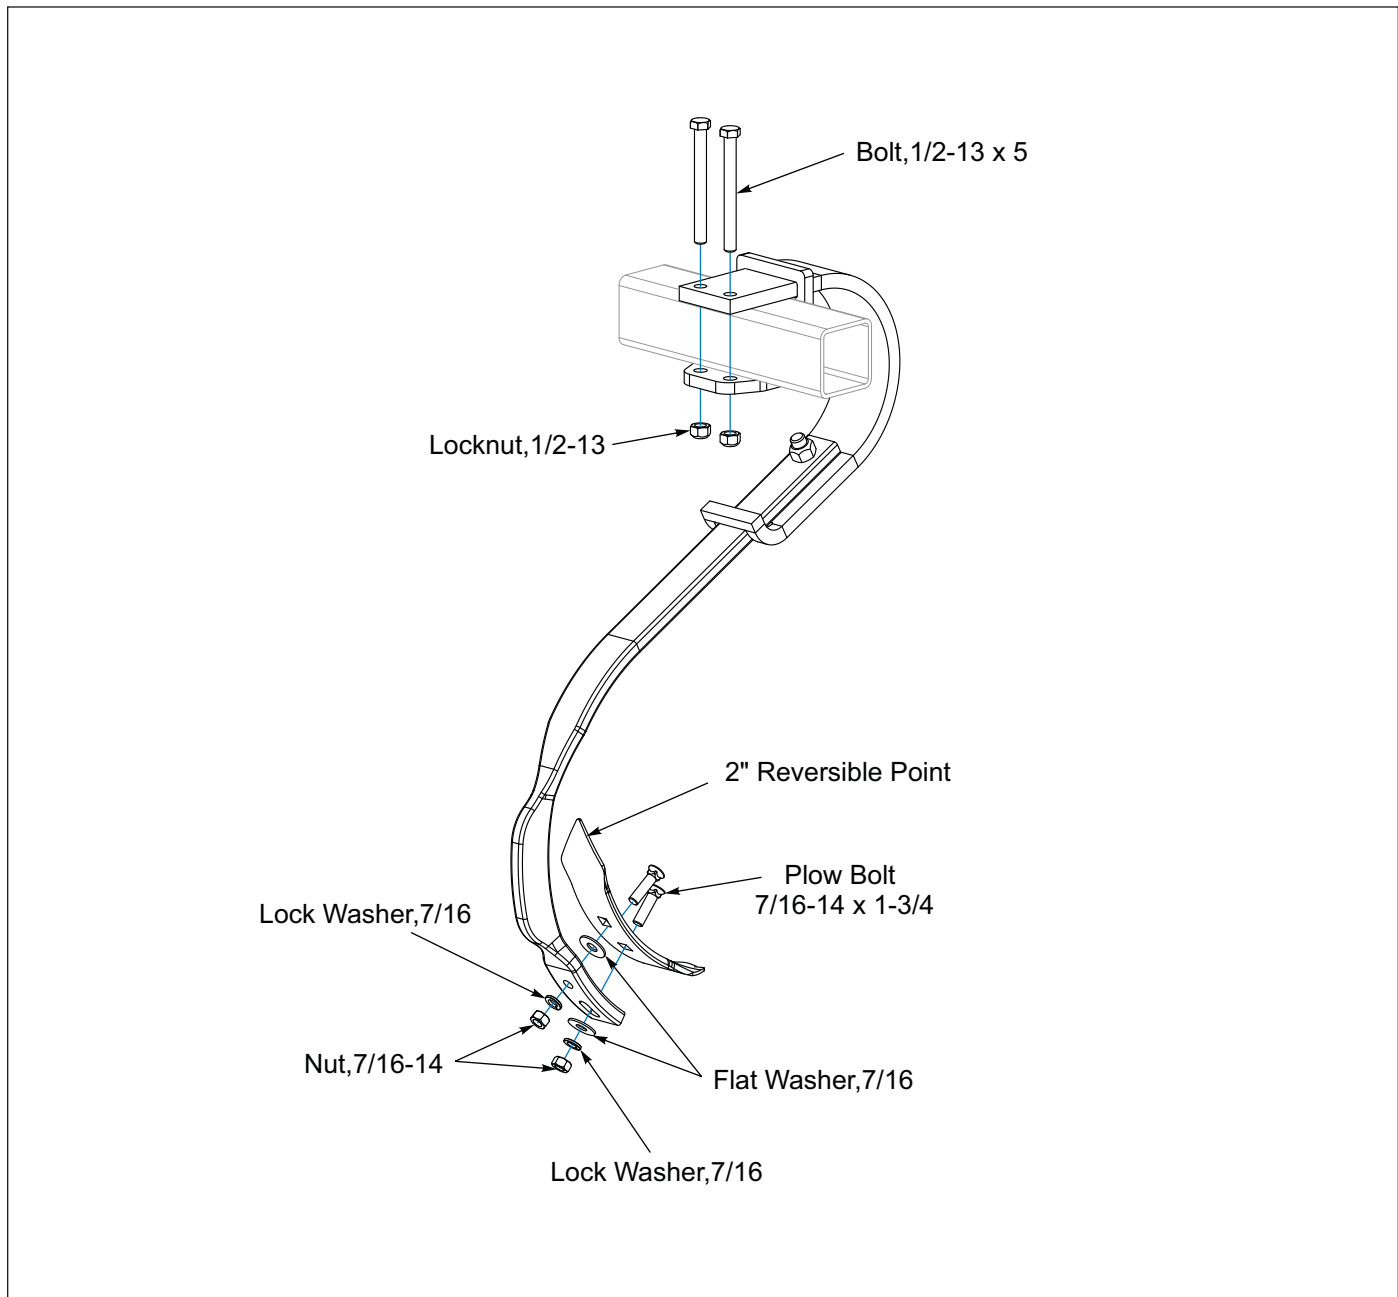

Figure 2-33: Shank Installation
2. Assemble Points to Shanks as shown in **Figure 2-33**.